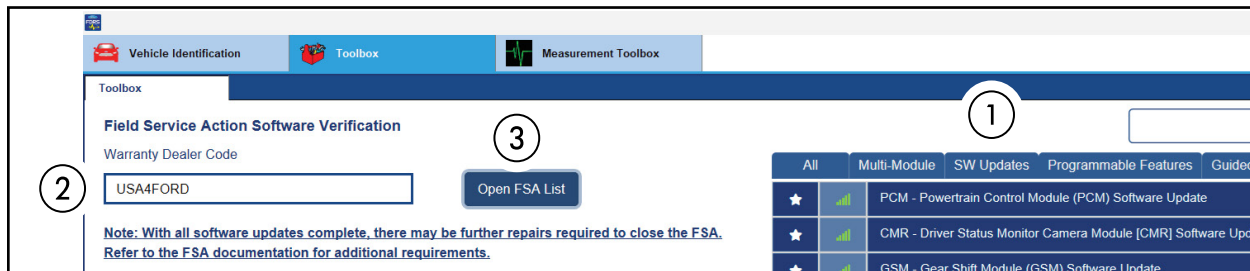

FIGURE 5
28. Select the **SW Updates** tab (1). See Figure 5.
29. **Warranty Dealer Code** (2) - Change the displayed PA code as necessary. See Figure 5.
30. Select the **Open FSA List** button (3). See Figure 5.